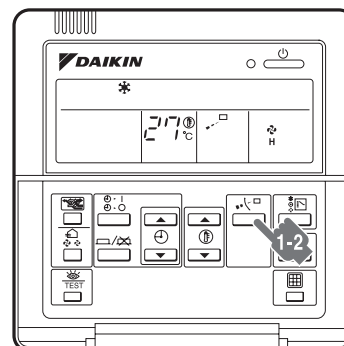

figure 6
**1-6-3 Adjusting the Air Flow Direction (Refer to figure 6) (only for Double-flow, Multi-flow, Corner, Ceiling-suspended and Wall-mounted)**